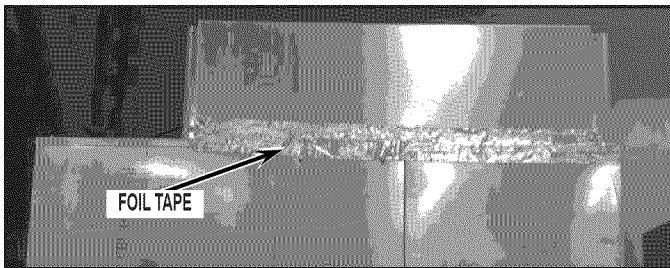

FIGURE 15
17. Place the foil tape supplied in the kit onto the location on the back of the refrigerator as shown in *Figure 15*. It is very important this tape is in place to facilitate proper air flow.